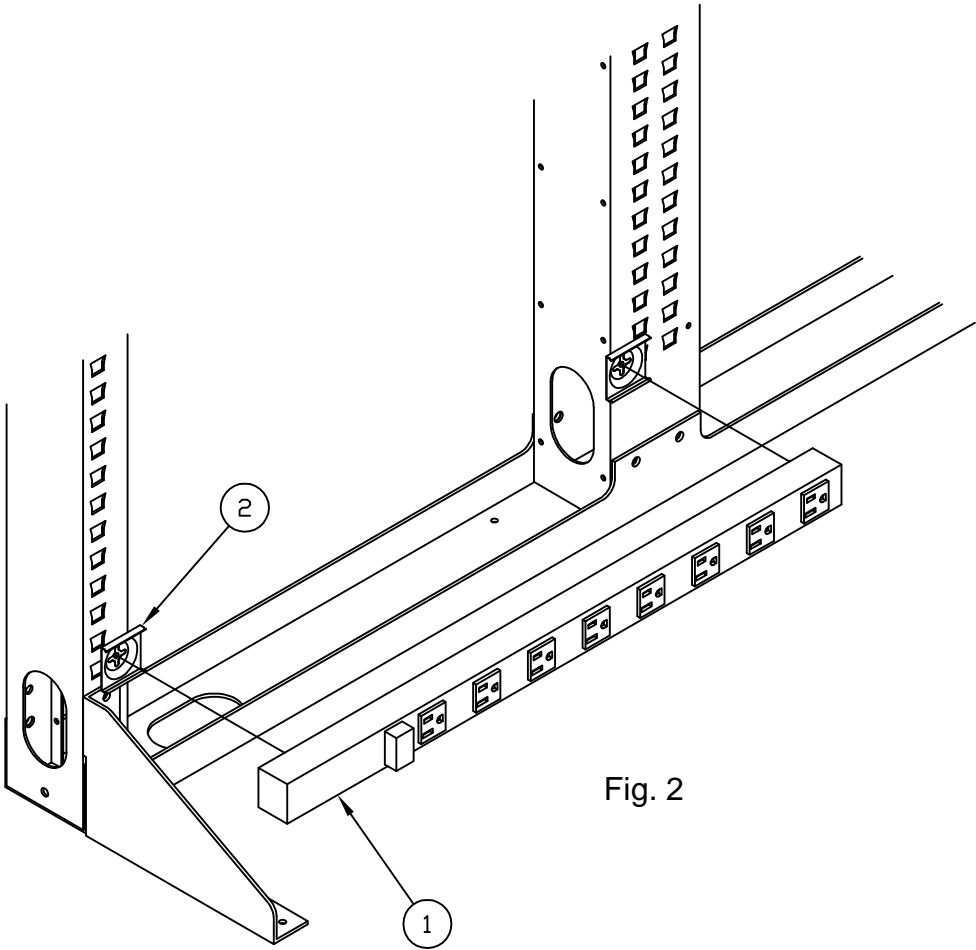

Fig. 2
2. Snap the powerstrip (1) into the clips (2). See Fig. 2